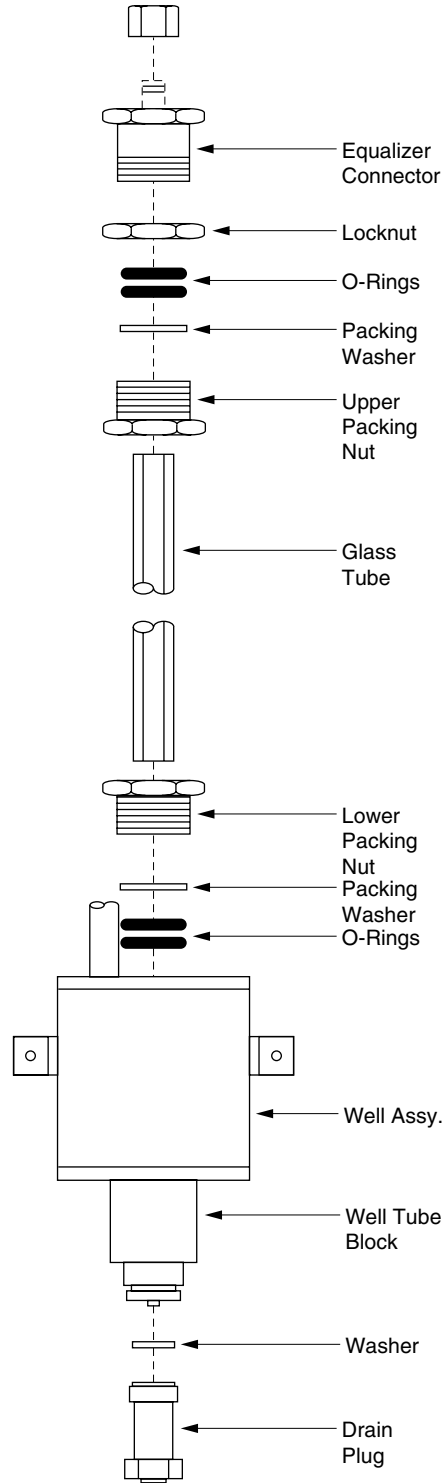

Figure 2 - Glass Tube Replacement
- b. See **Figure 2** Loosen upper and lower packing nuts. Unthread locknut on equalizer connector and remove through top of bracket.